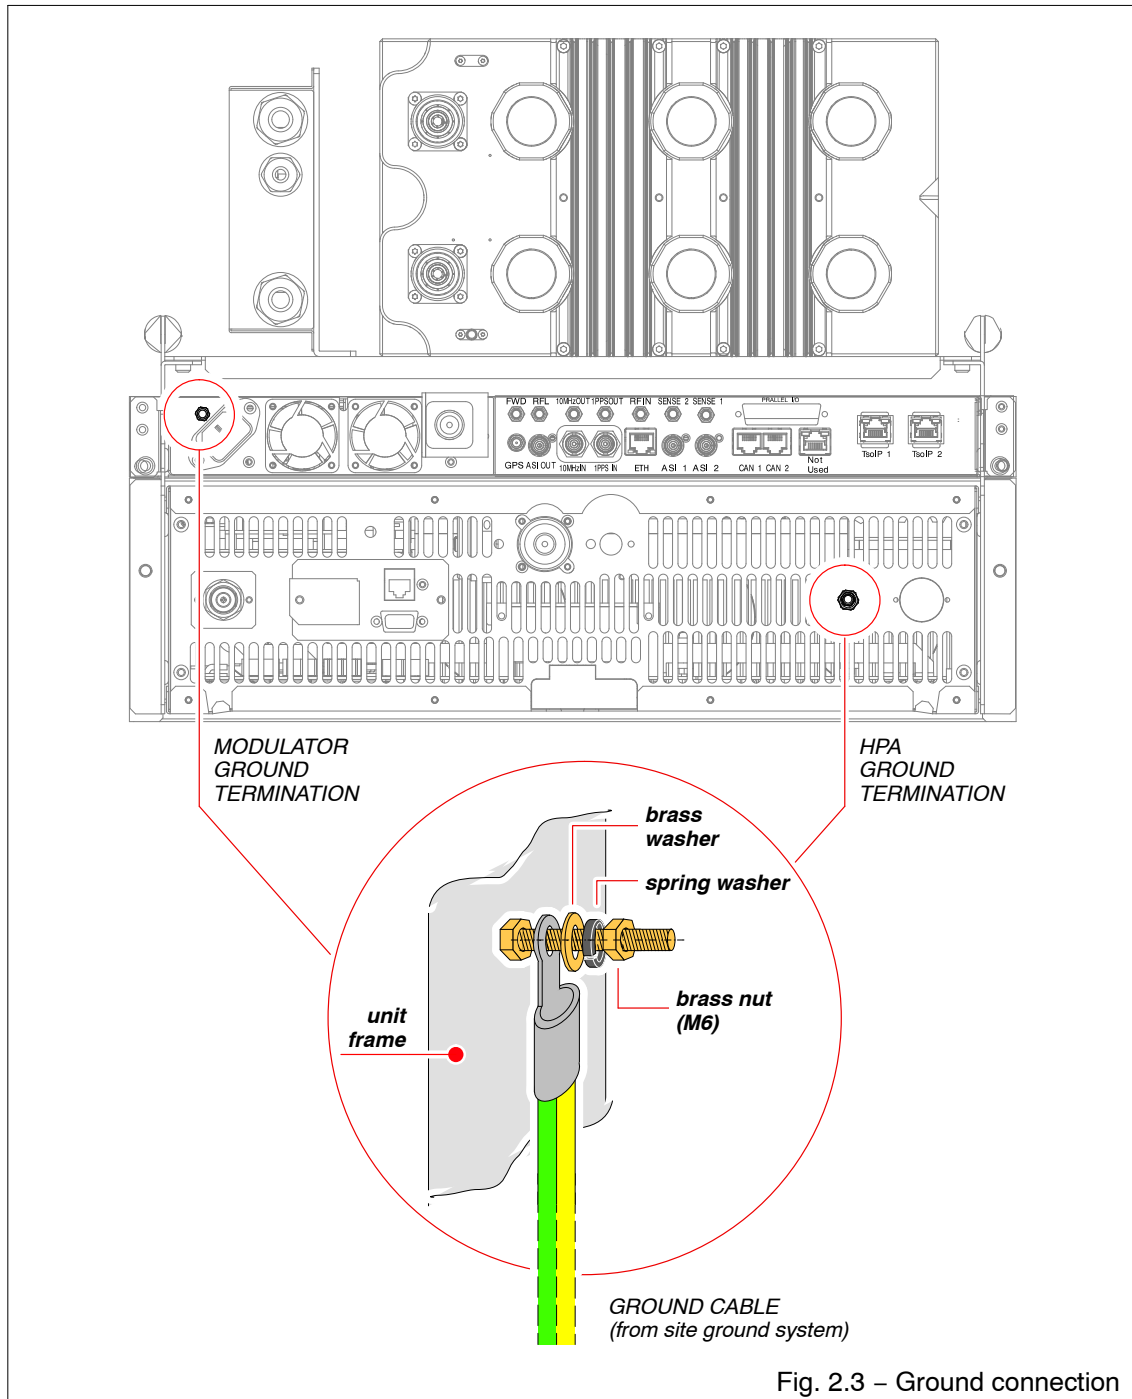

Fig. 2.3 – Ground connection
2.2.2 Ground connections (refer to Fig. 2.3)